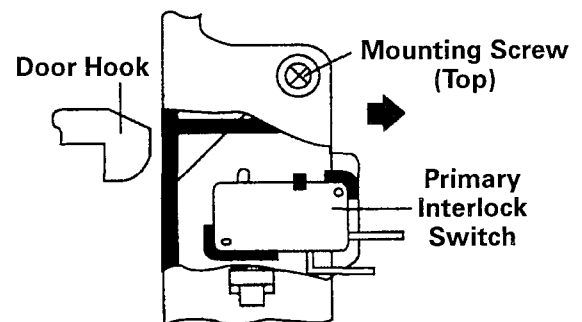

Figure 6
d. To reduce gap located on part "D". **(Figure 6)**